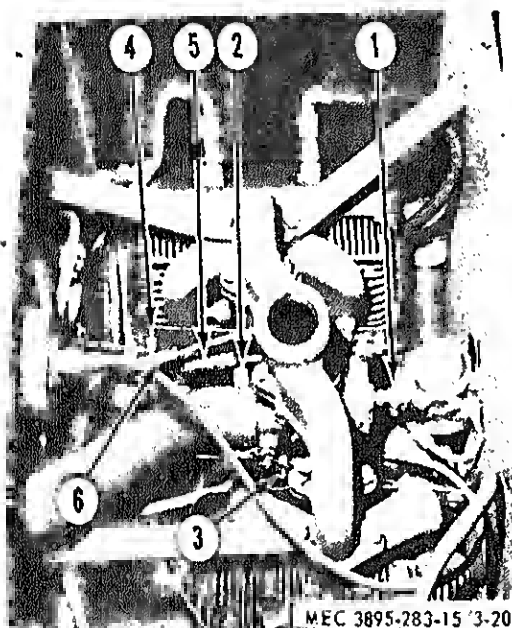

Figure 3-20. Removal of Carburetor.
(1) Remove the engine canopy as outlined in paragraph 56.
(2) Remove connector (1, fig. 3-20) and fuel line.
(1) Install new gasket and carburetor in position on intake manifold. Tighten bolts evenly to prevent cracking carburetor casting.
(2) Position the governor rod in control arm (fig. 3-20). Install lockwasher and nut.
(3) Insert choke control cable through choke lever. Move choke control lever to open position (away from instrument panel). Push choke cable in and tighten locking screw in choke lever.
(4) Install air inlet hose on carburetor and tighten the clasp.
(5) Replace canopy as outlined in paragraph 3-35.
(1) Remove upper manifold (para 3-40).
(2) Remove governor spring from lever (5, fig. 3-20).
(3) Remove cotter pin from control and drop chain from slot.